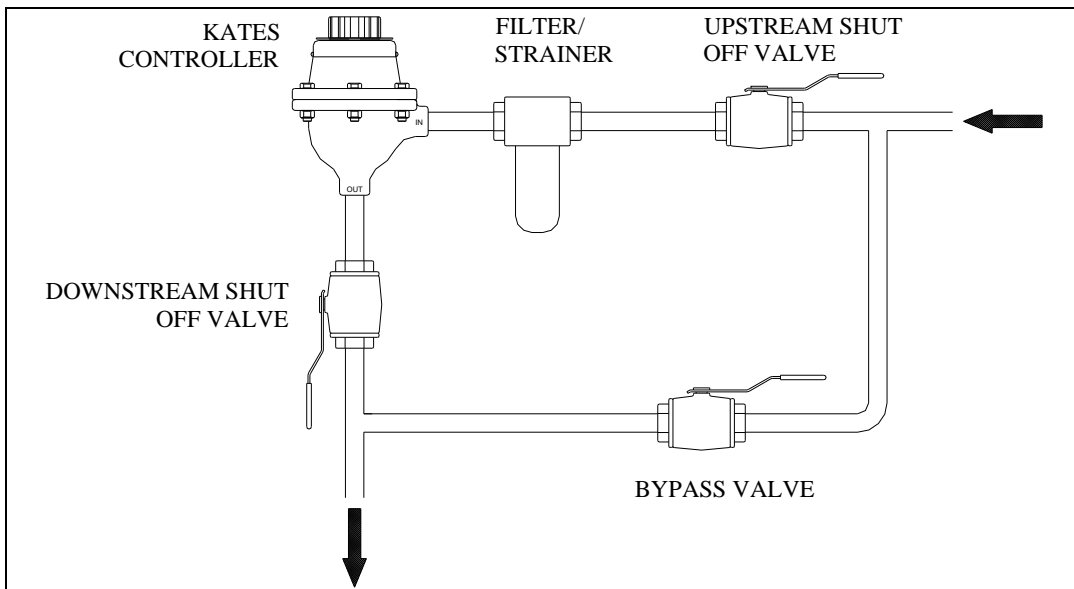

Figure 3
2. Upstream and downstream shutoff valves and a bypass valve should be installed so that the controller may be opened for inspection and cleaning without requiring complete system shutdown.(See figure 3)
5. Place the controller in service by opening upstream and downstream shut off valves and closing the bypass valve around the controller. Use caution; during start-up, open valves slowly to avoid pressure surges. The controller will now regulate the flow rate at the set value. (See figure 3)
2. It is not necessary to remove the controller from the line to clean. If installation includes proper shutoff and bypass valves, operate these and take the controller off stream or control. (See figure 3)